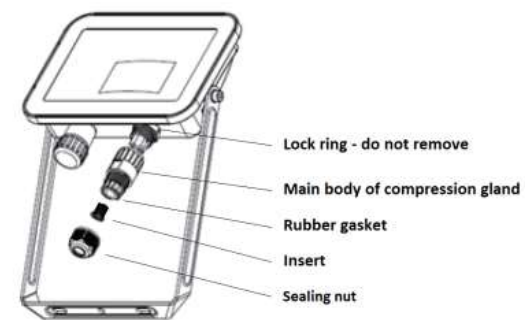

Fig. 2
- Unscrew the sealing nut from the compression gland (see Fig. 2) and fit it over the supply cable
- Unscrew the main body of the compression gland from the fitting ensuring that the hexagonal lock ring is not dislodged (see Fig. 2)
- Remove the protective insert from the compression gland, leaving the rubber gasket in place (see Fig. 2), and pass the supply cable through the compression gland